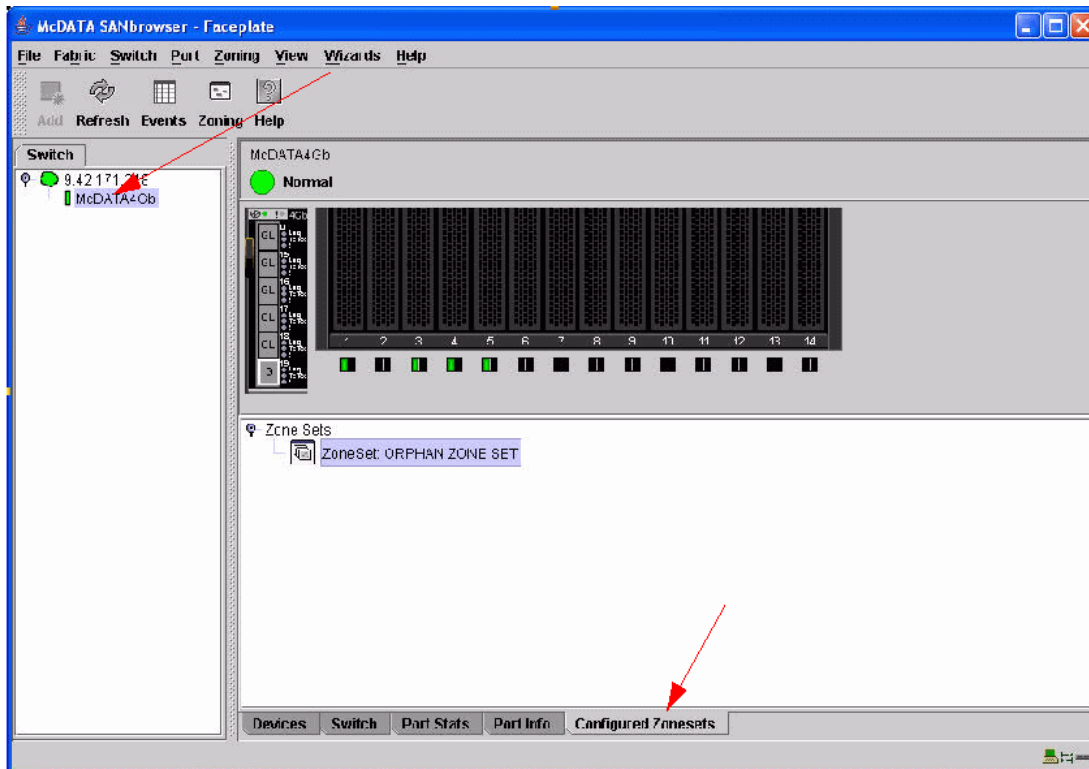

Figure 6-8 McDATA SANbrowser - Faceplate window
- From the Faceplate, select the **Configured Zoneset** tab (Figure 6-8). Verify there are no zones configured on the switch. If there are zones configured, see the manufacturer user's guide for instructions on how to remove the zone set and zones.